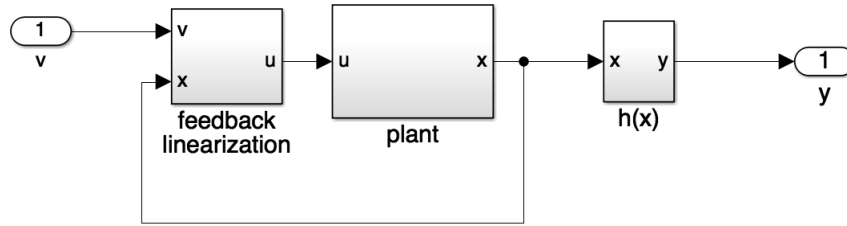

Figure 1: Linearized Chua system.
1. Design the ‘feedback linearization’ block in Figure 1, so that the system from v to y is LTI.
2. Design a LTI controller K^1 for the linearized system in Figure 1 (the choice of the design method is up to the student). The task of this controller is to ensure an accurate asymptotic tracking of constant reference signals. The rise time and overshoot of the closed-loop system should be reduced as much as possible.
3. Apply the ‘feedback linearization’ block and the LTI controller K^1 to the system (1) implemented in Simulink.